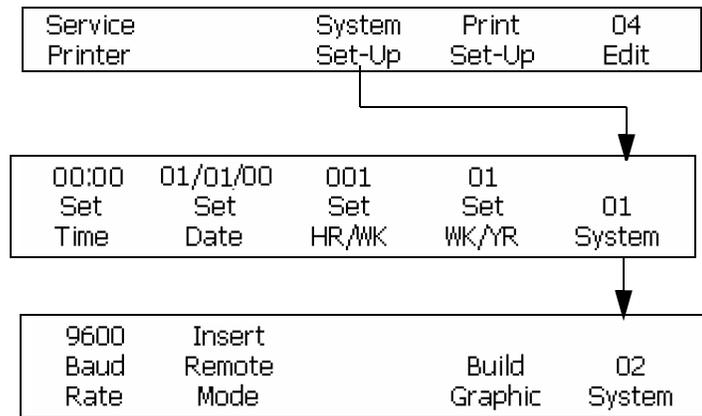

Figure 6-47: Accessing Frame <02 System>
- 1 Begin in the frame <02 System>. Select <Build Graphic>. Refer to Figure 6-47.